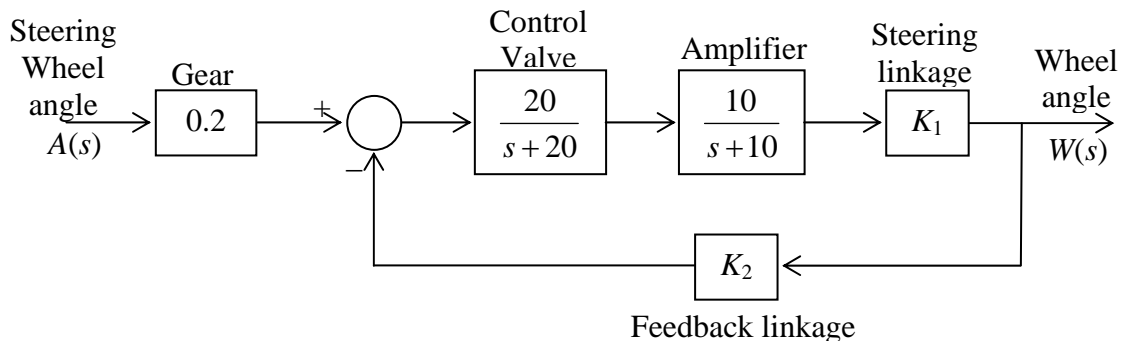

Figure 2
3. Not all second order systems are designed to give a standard 2nd order response. Consider the power steering for an automobile. The feedback system can be modelled as the block diagram shown in Figure 2. For a unit step input $A(s)$, find values of K_1 and K_2 for which the response $w(t)$ is critically damped and has a steady-state gain of 0.3 unit. Repeat for a damping ratio of 0.7 and a steady-state gain of 0.2 unit.